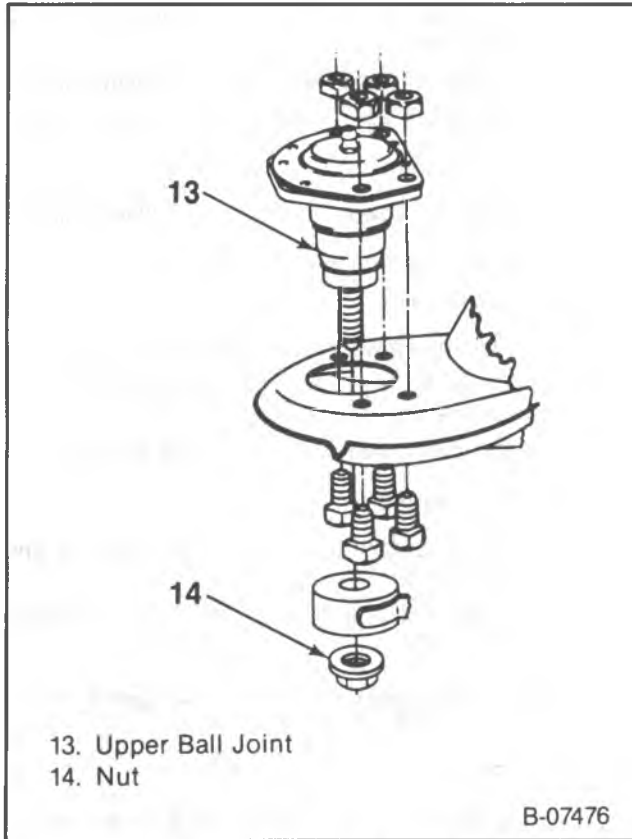

Figure 27 — Installing the Upper Ball Joint
1. Upper ball joint (13) into the upper control arm (28).
- Position into the upper control arm and install the four attaching bolts and nuts (figure 27).